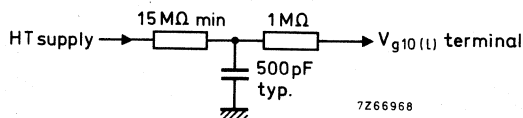

Fig. 8.
1. These values are valid at cut-off of both flood guns and the writing gun. The H.T. unit must be capable of supplying 0,5 mA. To protect the tube against excessive surge current during erasure, an adequately dimensioned RC-network must be connected in series with the screen terminal lead (Fig. 8).